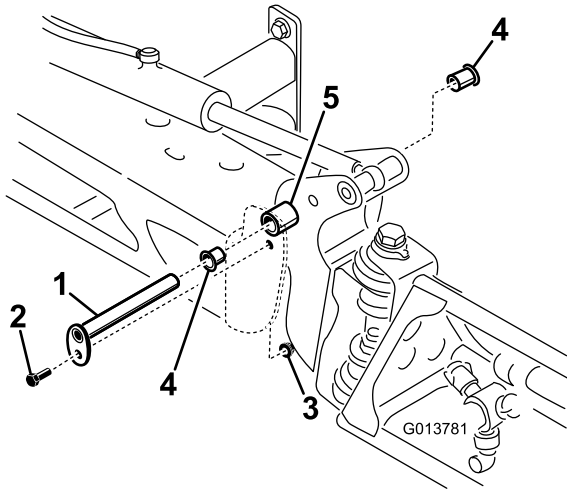

Figure 66
3. With the weight of the boom supported, remove the bolt and nut securing the pivot pin to the boom assembly (Figure 66) and remove the pivot pin.
5. Remove and inspect the nylon bushings from the front and back sides of the pivot bracket (Figure 66).
7. Install the boom and pivot bracket assembly into the center frame, aligning the openings (Figure 66).